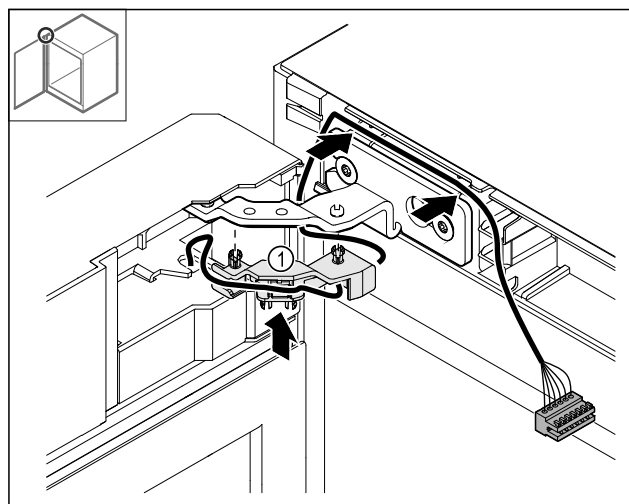

Fig. 52
- Push the cable holder Fig. 52 (1) into the hinge.